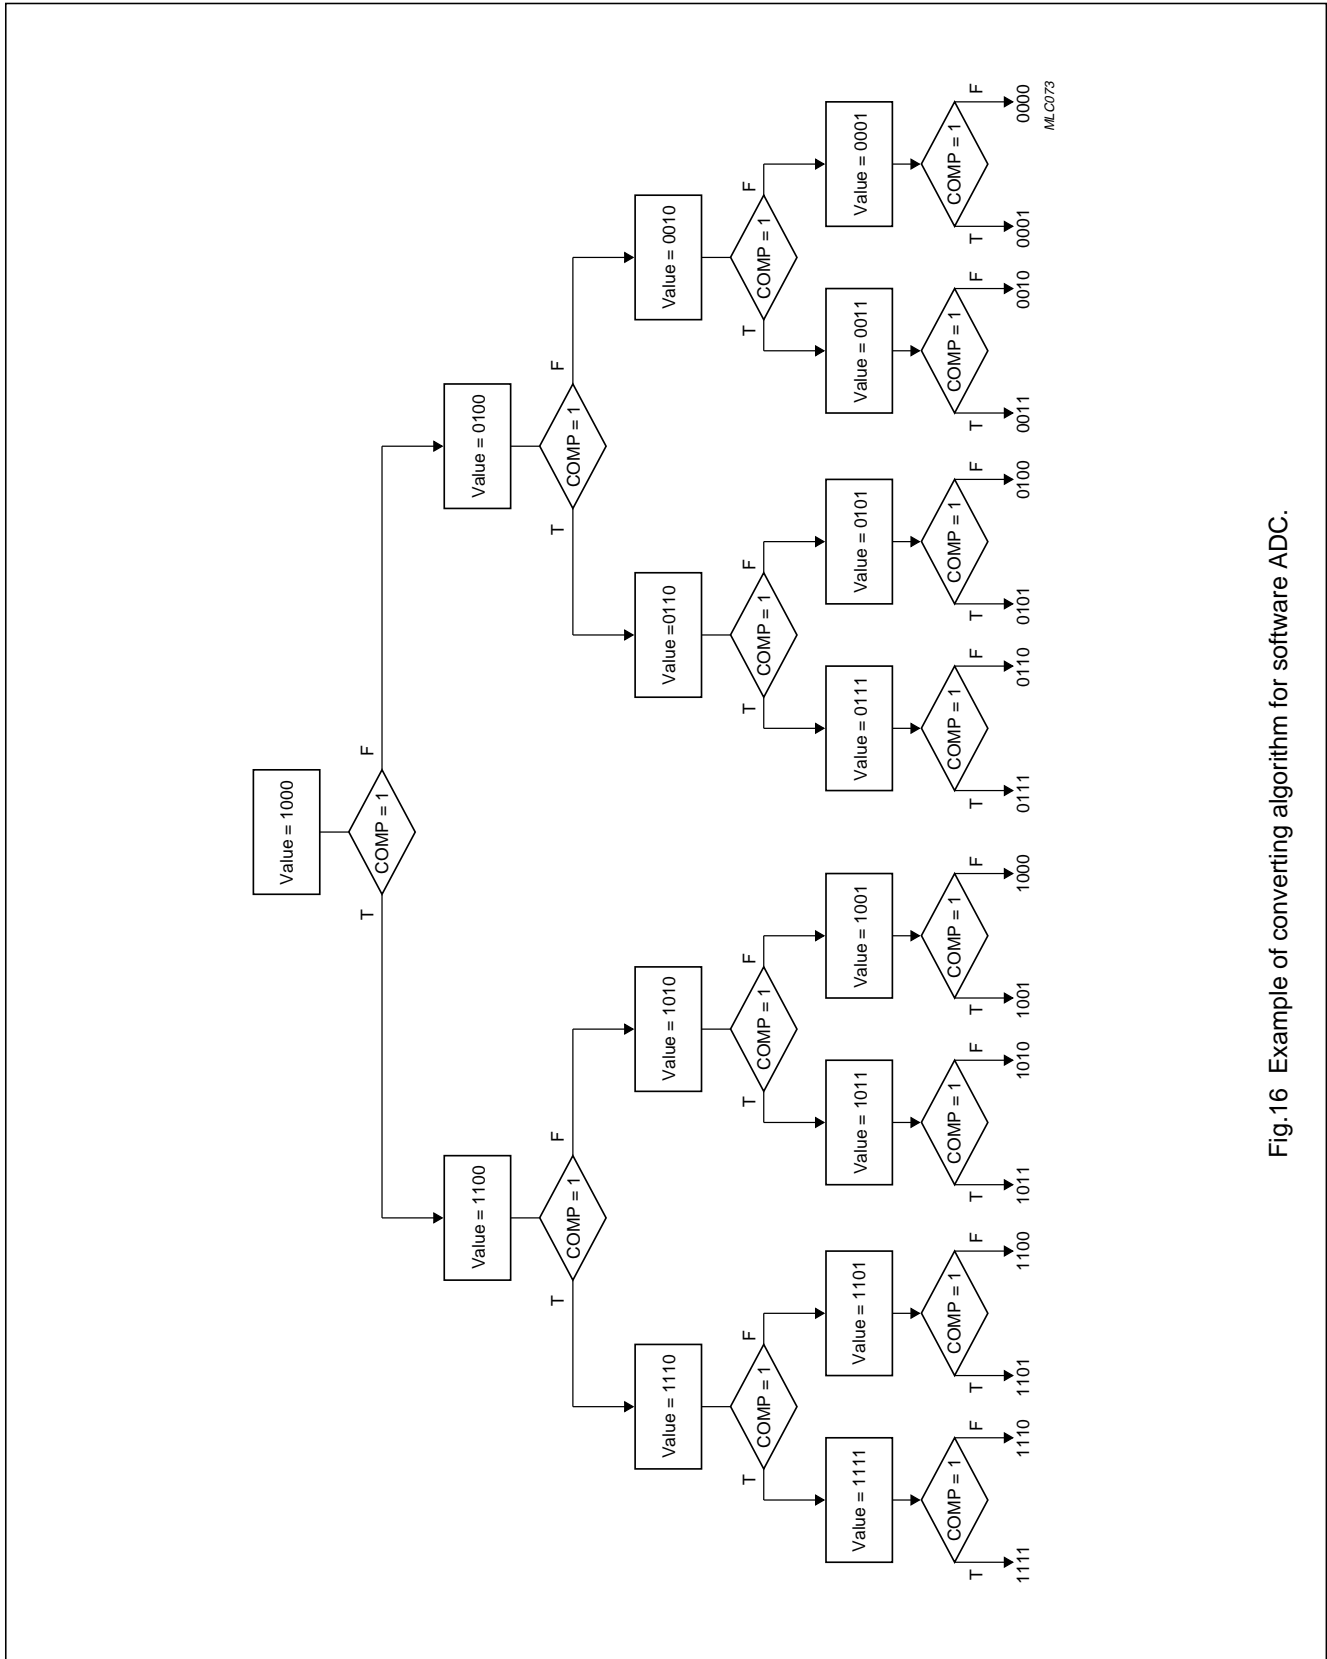

Fig.16 Example of converting algorithm for software ADC.
There are many algorithms available to achieve the ADC conversion. The algorithm described below and shown in Fig.16 uses an iteration process.
- 9. The operations detailed in 6, 7 and 8 above are repeated and each time the digital input to the DAC is changed accordingly; as dictated by the state of the COMP bit. The complete process is shown in Fig.16. Each time the DAC input is changed the number of values which the analog input can take is reduced by half. In this manner the actual analog value is honed into. The value of the analog input (V_A) is determined using Equation (4):